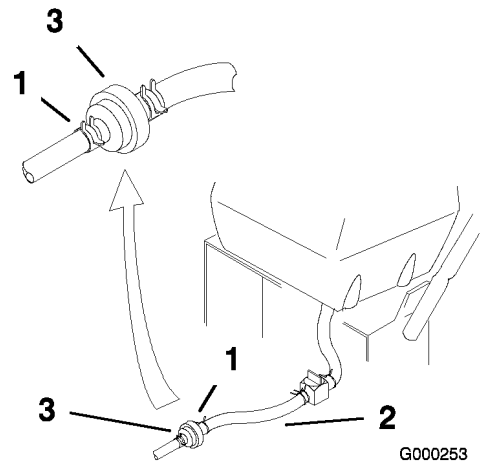

Figure 42
4. Squeeze the ends of the hose clamps together and slide them away from the filter (Figure 42).